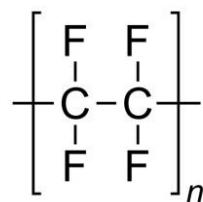

Figure Q4a
4. (a) The chemical structure of polytetrafluoroethylene (PTFE) is shown in Figure Q4a. Calculate the molecular mass of one repeating unit. (carbon: 12 g/mol; fluorine: 19 g/mol) [2 marks]